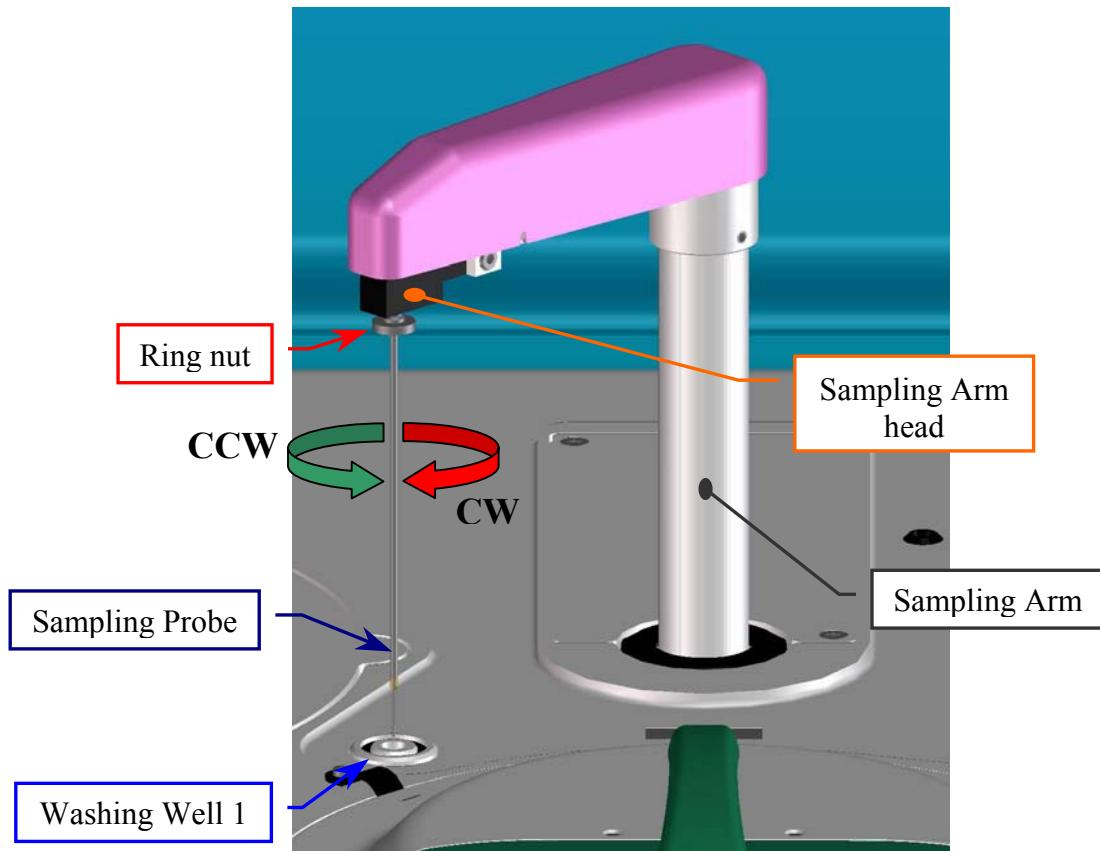

Fig. 11 – Sampling Probe
4. Remove the Sampling Probe from its housing by unscrewing (clockwise) its ring nut (**Fig. 11**).
8. Attach the (straight) Sampling Probe to the Sampling Arm head (**Fig. 11**).
9. Rotate slowly (counter clockwise) the Sampling Probe ring nut in its thread hold until you feel the stop (**Fig. 11**), then screw tight.